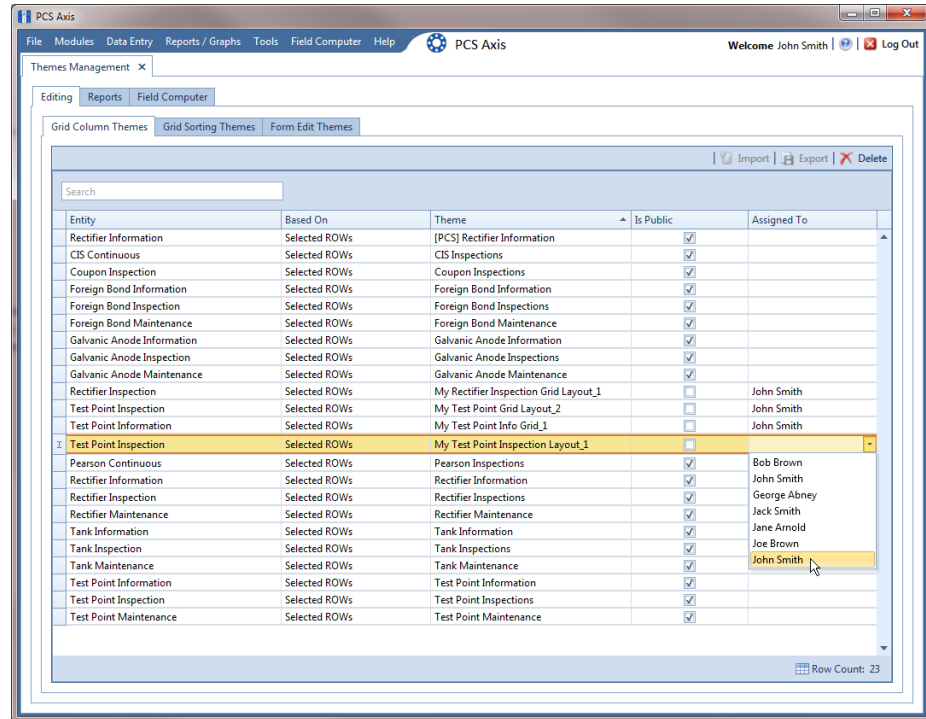

Figure 15-7. Themes Management
- 1 Click **Tools** > **Themes Management** to open the *Themes Management* window (Figure 15-7).
- a Select a theme in the grid. For example, a *Test Point Inspections* theme addition is selected in Figure 15-7.